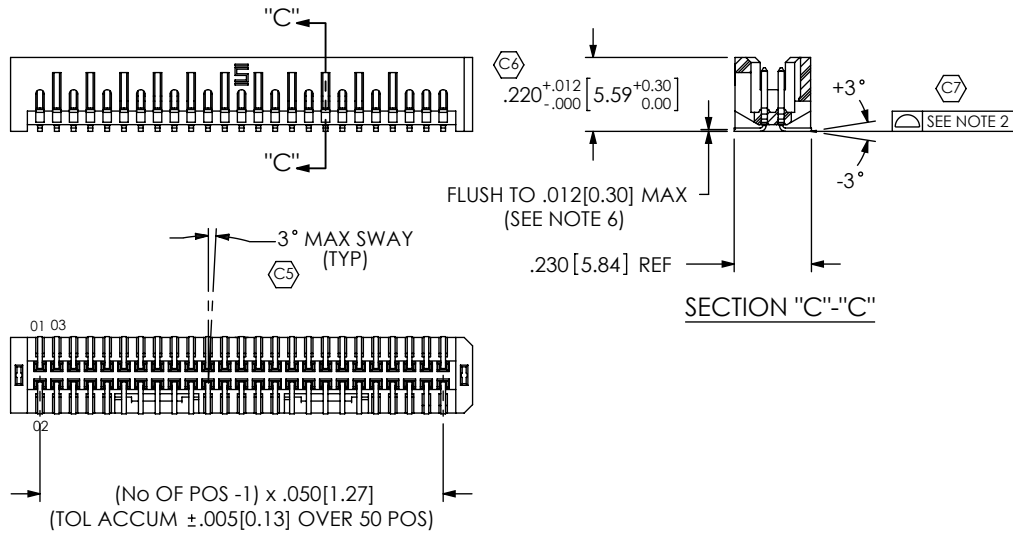

FIG. 5
-P: PICK & PLACE PAD (USE PPP-04) (AVAIL IN ALL POSITIONS, N/A ON -RA OPTION, SEE FIG. 5, SHT 2)